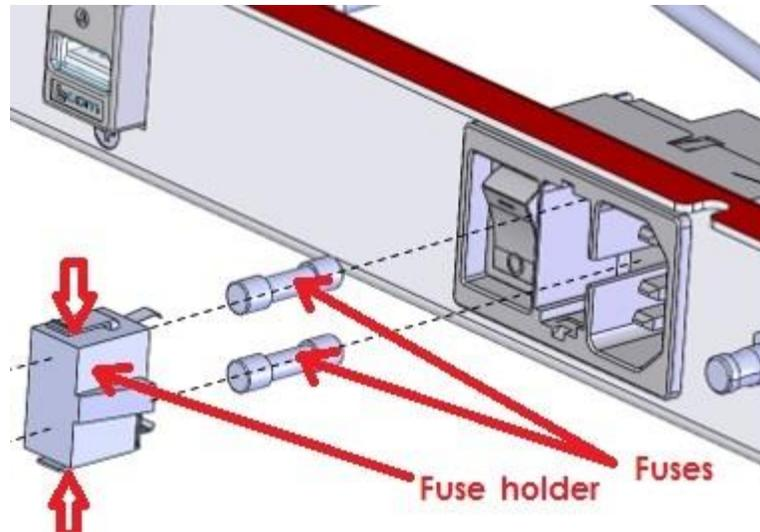

Figure 68: Fuses and Fuse Holder
- Lift the lower clip to eject the *fuse holder* (refer to Figure 68)